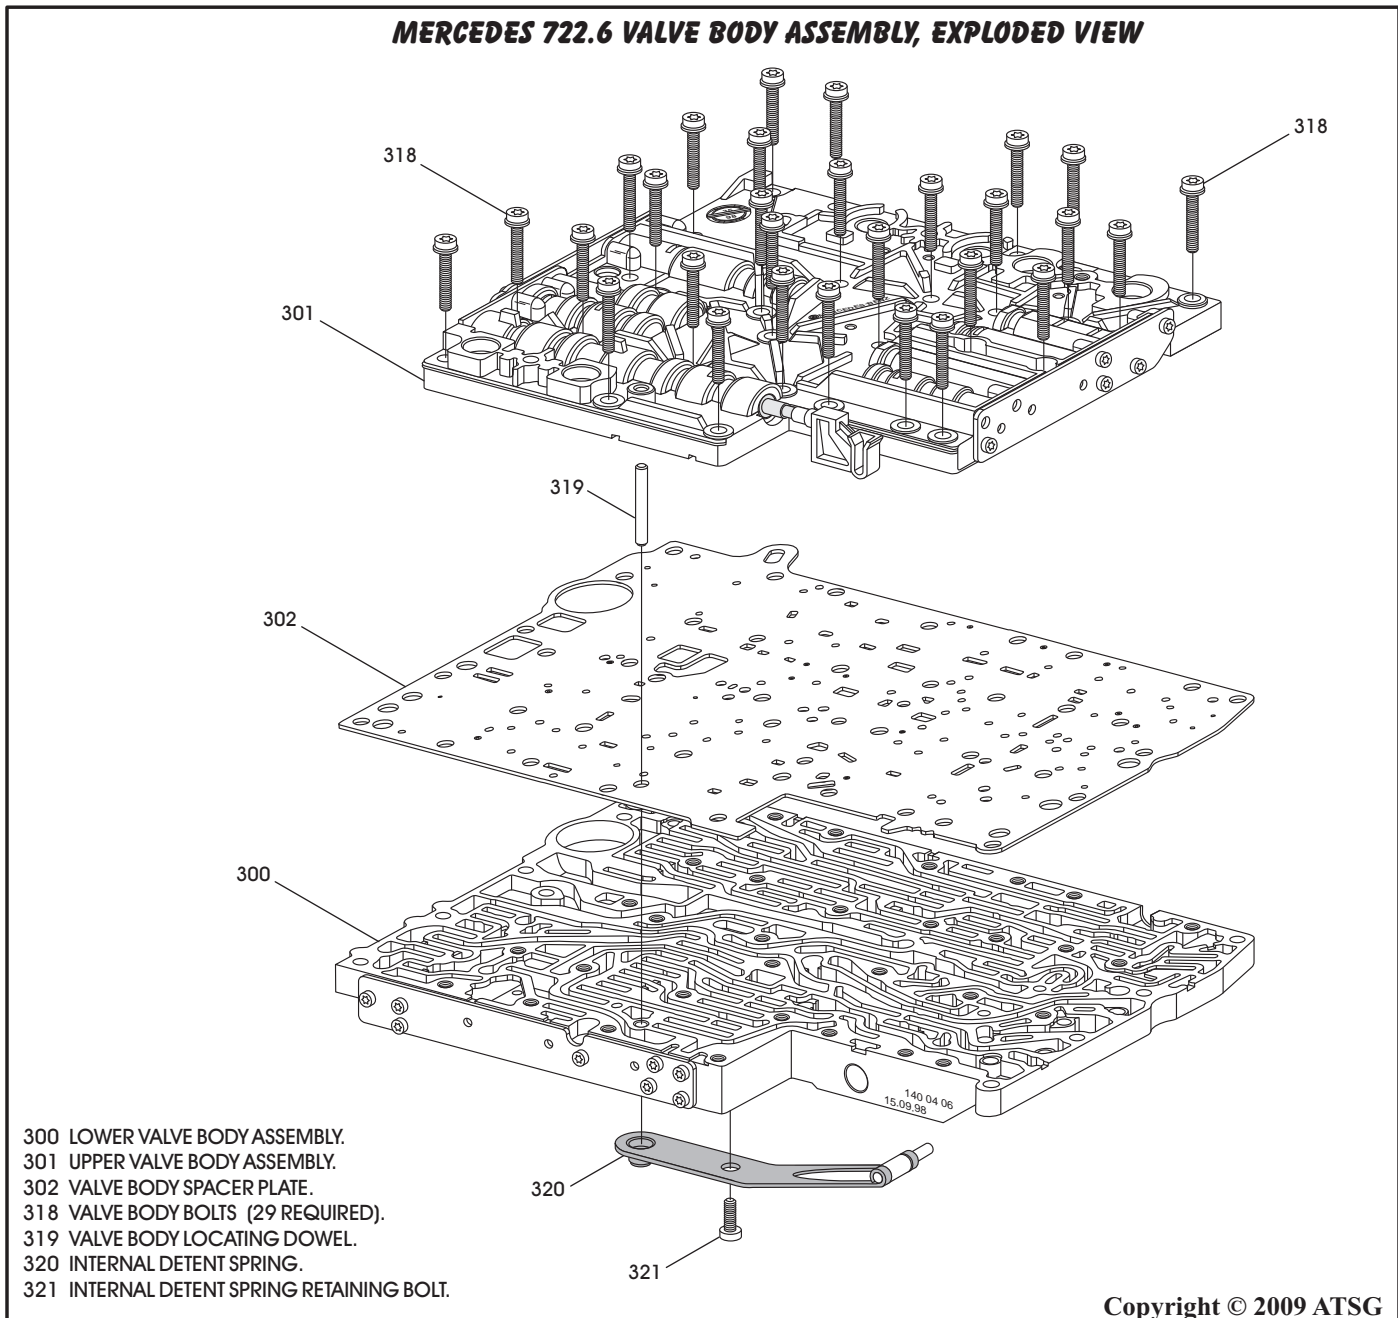

Figure 168
7. Remove the alignment dowel pin, as shown in Figure 168.
8. Remove the 29 valve body bolts, as shown in Figure 168, using a 30 Torx bit.
9. Separate the upper and lower valve bodies and spacer plate, as shown in Figure 168.
31. Install completed upper valve body over the alignment dowel and onto the spacer plate, as shown in Figure 168.
32. Install 29 required valve body bolts, as shown in Figure 168, and torque valve body bolts to 8 N·m (71 in.lb.).